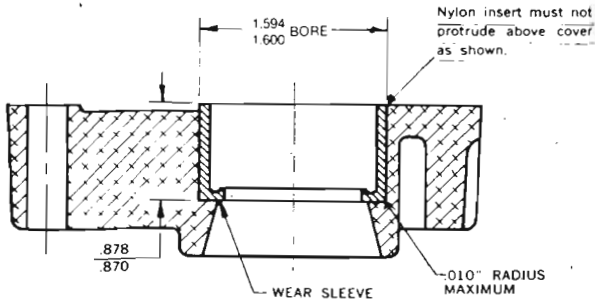
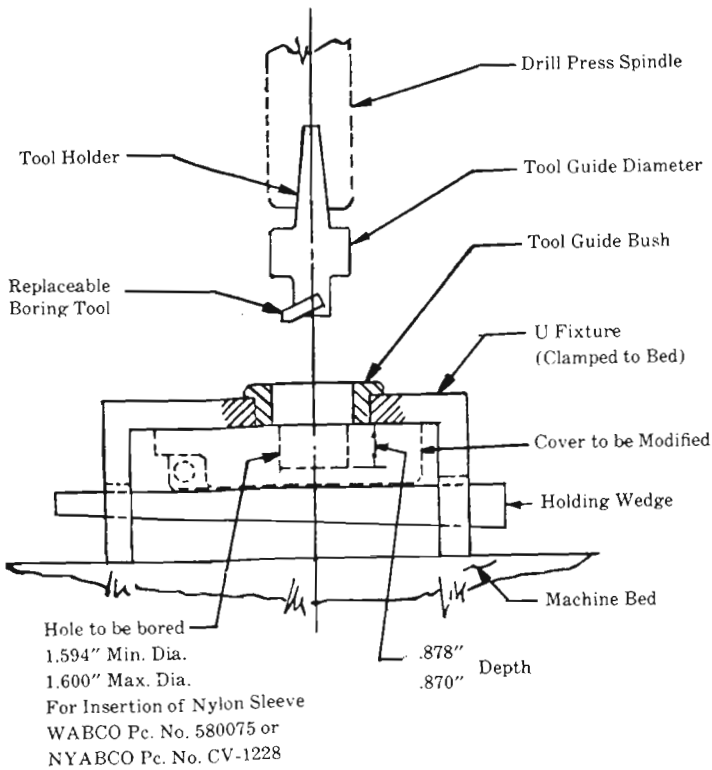

Figure 12
Figure 13
7.1.5 The bottom cover of the "ABD" Release Valve Portion must be modified when worn from the stem and end plate, to accept a nylon wear sleeve insert. Figure 12 shows the dimensions to which the cover must be machined. Machining may be done in a lathe or drill press as shown in Figure 13. To prevent corrosion after the cover is machined, the machined area must be treated with "Alodine 1200" or ap-